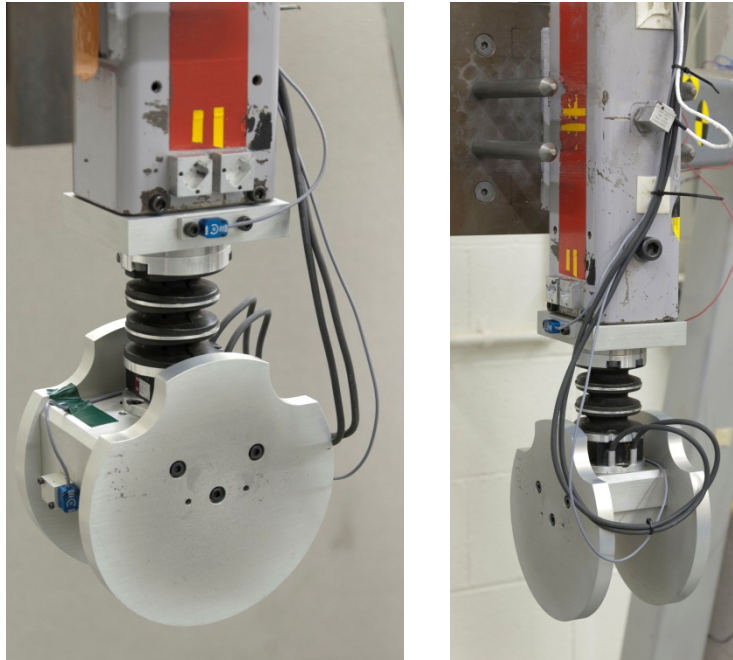

Figure 23. Tape and strain-relieve instrumentation wiring
- Tape and strain-relieve the instrumentation wiring leaving plenty of slack for neck flexion (Figure 23).
- In addition, zero all instrumentation channels with the pendulum vertical (Figure 23 – right).